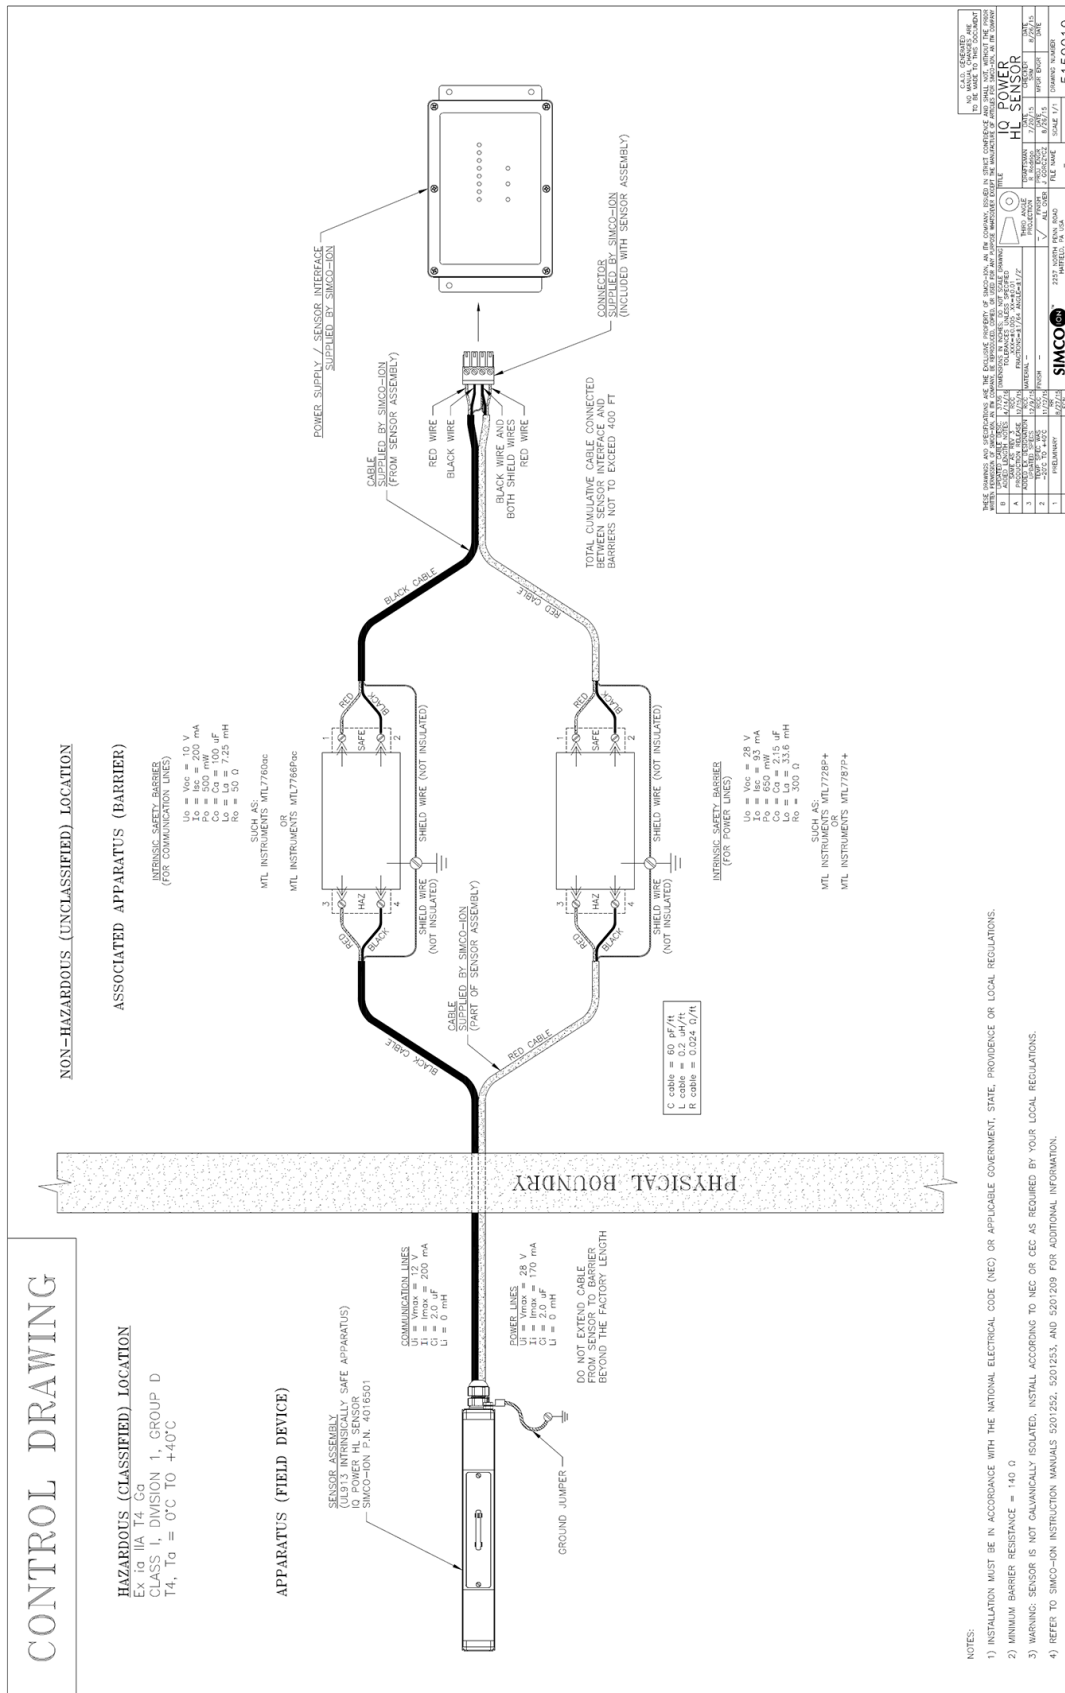

Figure 3. IQ Power HL Sensor Control Drawing 5150010
WARNING – Substitution of components may impair intrinsic safety. (Refer to Control Drawing, Figure 3).
The IQ Power HL Sensor interfaces with the IQ Power system through an IQ Power Sensor Interface. The IQ Power Sensor Interface provides connection for up to eight (8) IQ Power HL Sensors and connects to the IQ Power system through a convenient modular cable. The interface also provides indicators for sensors connected and overall system status. The IQ Power Sensor Interface and Intrinsic Safety Barriers must be located outside the hazardous area, see Figure 3, Control Drawing 5150010.
Strip red and black wires as required by barrier manufacturer for connection to barrier. Connect each cable to the HAZ side of the appropriate barrier; see Figure 3, Control Drawing 5150010. Note that one cable from sensor has a red jacket; this is the cable that carries power to the sensor. The other cable, with a black jacket, carries digital communications to and from the sensor.
Split twin cable approximately 6” (150 mm). Carefully remove 4” (100 mm) of jacket from each cable. Remove foil shield and trim off, using care not to cut bare ground wire. Strip red and black wires as required by the barrier manufacturer for connection to the barrier. Connect each cable to the SAFE side of the appropriate barrier; see Figure 3, Control Drawing 5150010.